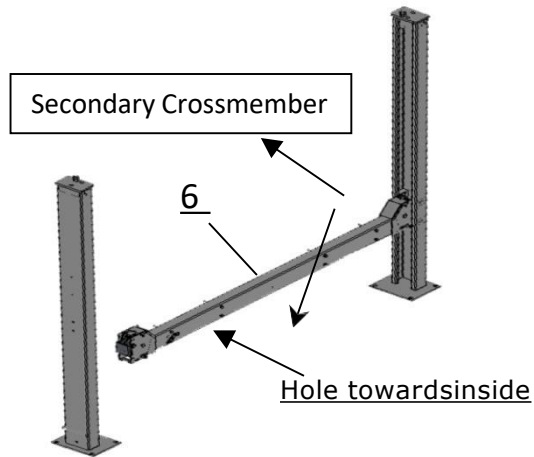

Fig.11
C. Install cross beams (See Fig.11, Fig.12).